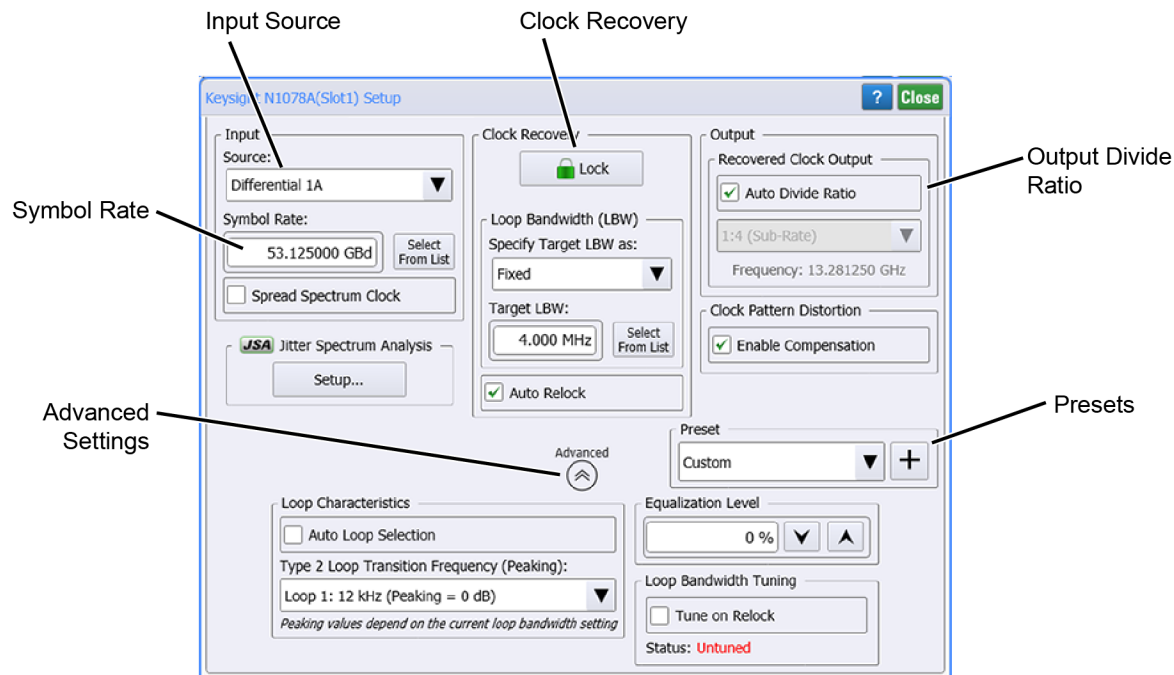

Figure 60. Clock Recovery Setup Dialog Box
6. Click **Setup > Modules > (Slot 6): Clock Recovery**. The dialog shown *Figure 60 on page 112* is displayed. The picture does not show settings required for this procedure.